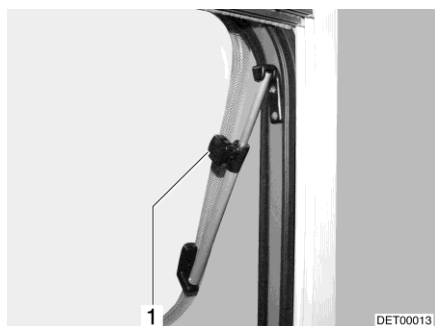

Fig. 88 Hinged window with rotary hinge
- Hinged window with rotary hinge: Open the hinged window until the required position has been reached and use knurled knob (Fig. 88,1) to secure in position.
- Hinged window with rotary hinge: Turn knurled knob (Fig. 88,1) until the latch is released.